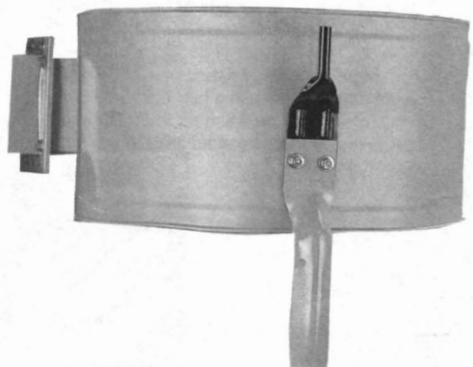

Fig.5
- 5 Attach support brackets to base using hex head bolts and washers. Do not tighten at this time. Insert hanger brackets (A - Fig. 5) between support brackets and collector housings. Align holes and secure with hex head bolts, washers, and nuts. Use two washers per bolt -- both inside and outside the collector housing. Tighten all support bolts.